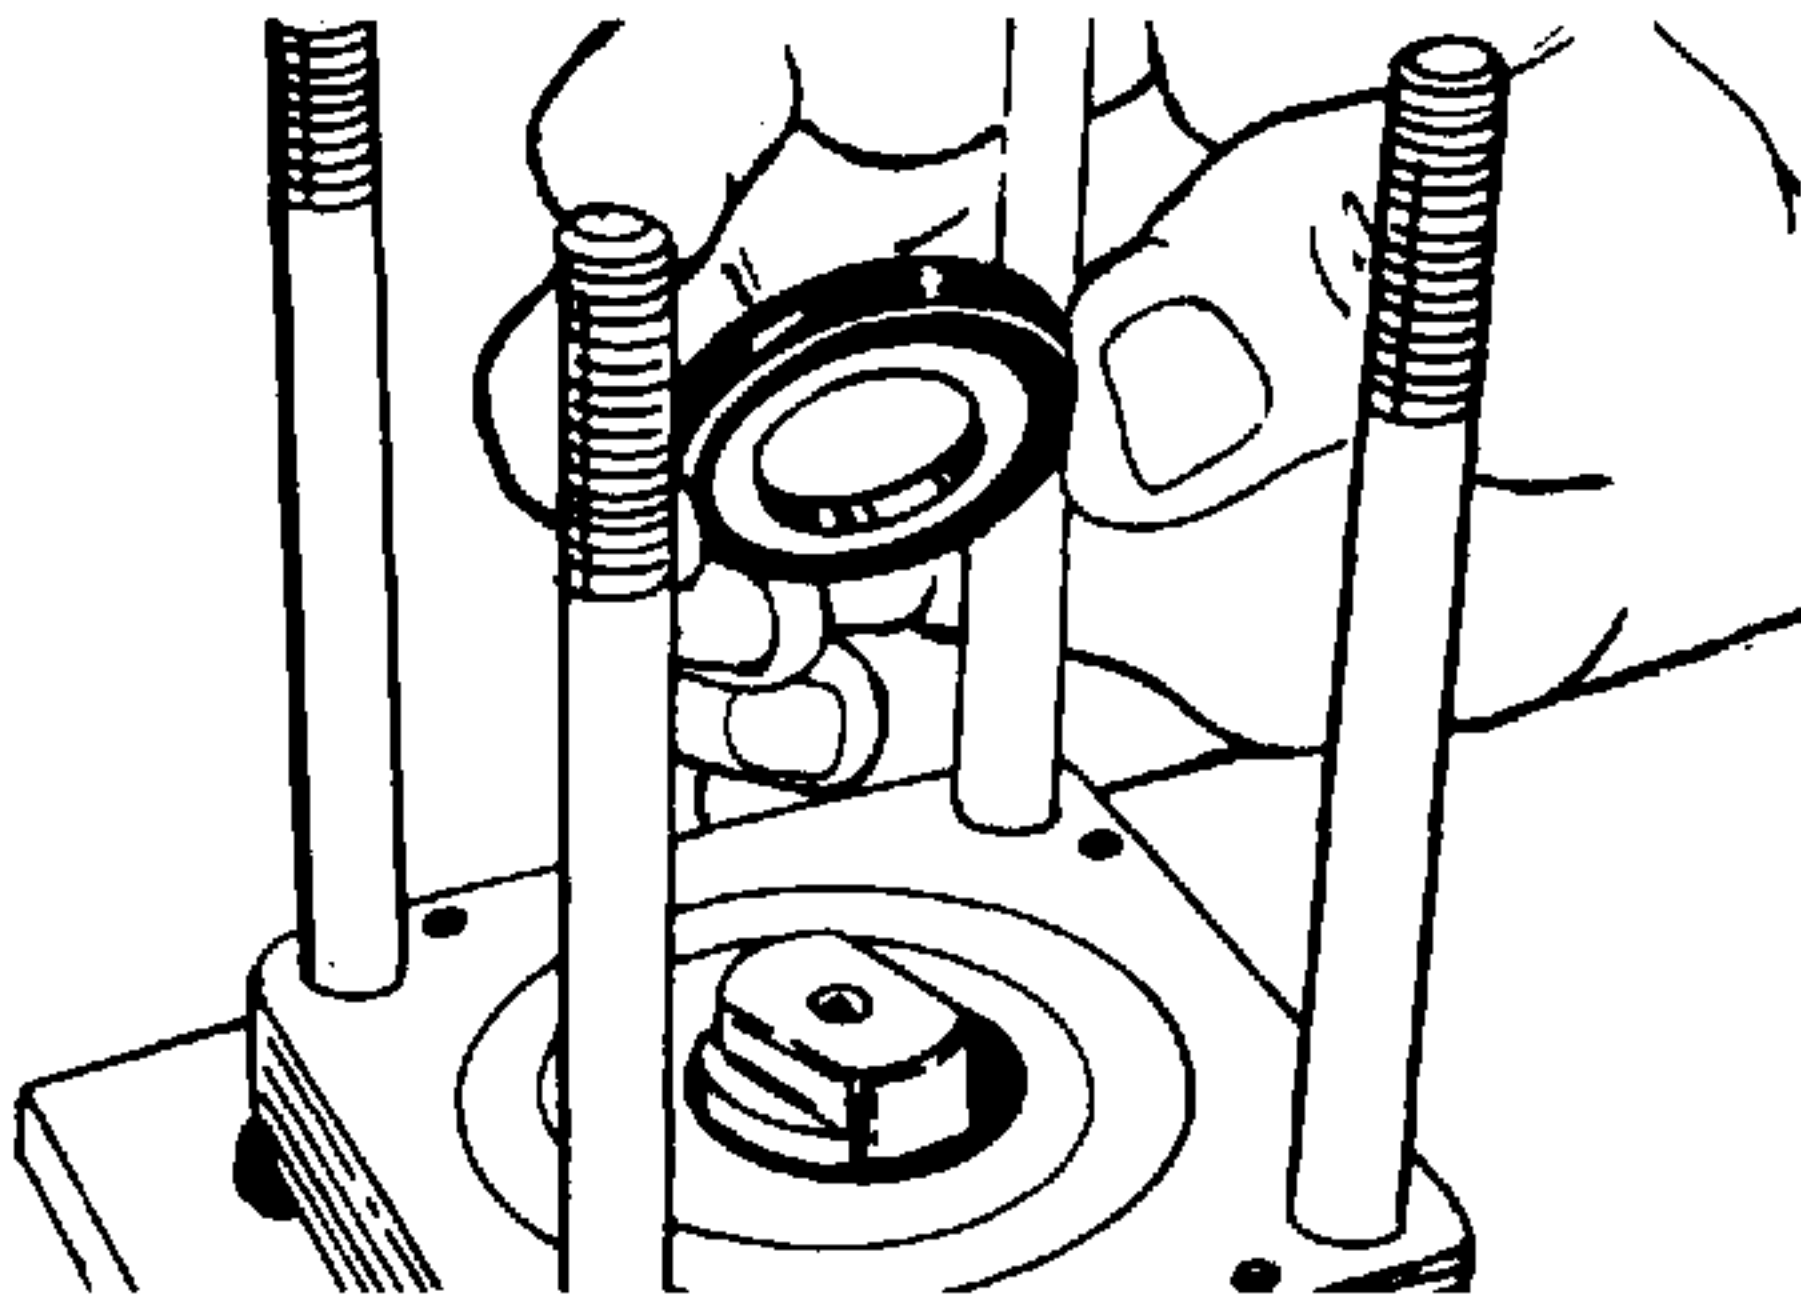

Figure 4-54. Installing Assembled Face Seal, Back-Up Ring and Spacer.
- Install face seal (27, Figure 4-1), back-up ring (28) and spacer (29) over end of input shaft assembly (31) onto upper cover plate (30). See Figure 4-54.